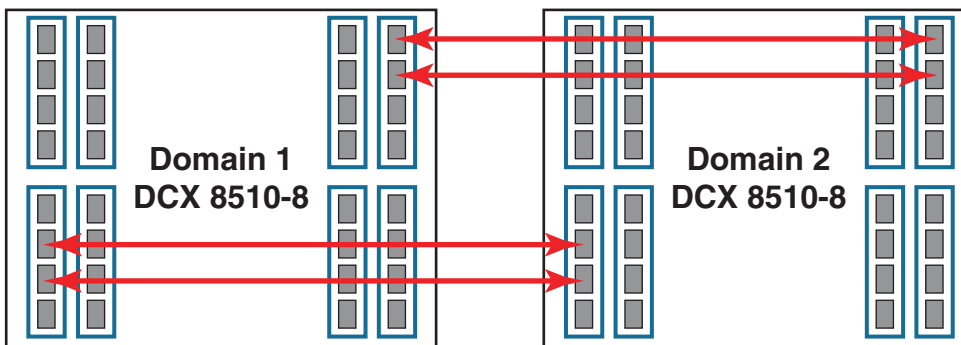
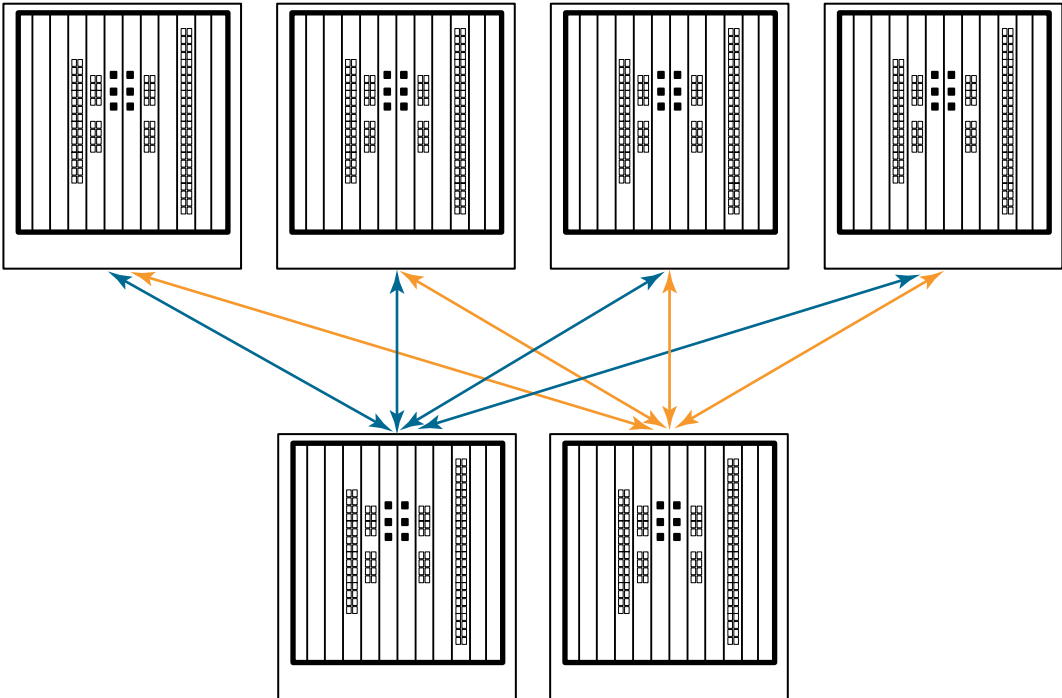

FIGURE 59 Minimum configuration for 64 Gbps ICLs
FIGURE 63 64 Gbps ICL core-edge topology
- For High Availability, you should have at least two ICLs from each core blade. Figure 59 shows two Brocade DCX 8510-8 chassis connected with full redundancy using four ICL connections.
- The QSFP cables must be in the same trunk group, as illustrated in Figure 59.
You can also connect the Brocade DCX 8510 Backbones in a core-edge topology. For example, Figure 63 shows six chassis connected in a core-edge topology (four edges and two cores).
Although Figure 63 shows only the Brocade DCX 8510-8, each chassis can be either a Brocade DCX 8510-4 or a DCX 8510-8. You can have up to eight edges with DCX 8510-8 cores or up to four edges with DCX 8510-4 cores.
Each line in Figure 63 represents four QSFP cables. The cabling scheme should follow the parallel example shown in Figure 59.